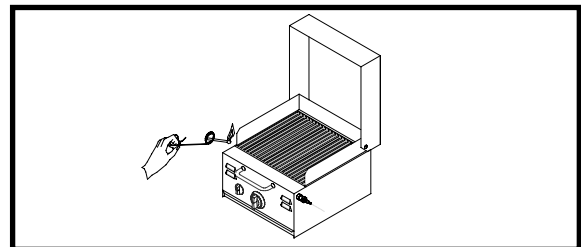

Figure 7. Burner Ignition Without Sparker
- Insure that the Burner Output Knob is in the OFF position (see Figure 7 on pg. 10).